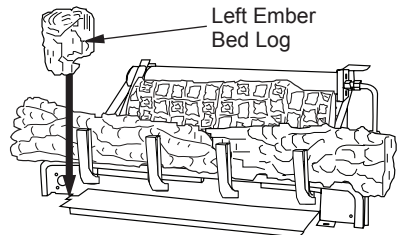

Figure 29 - Installing Left Ember Bed Log
3. Place left ember bed log as shown in Figure 29. The log has groove on one side that sets on the ember bed pan. The back side of this log needs to rest against the